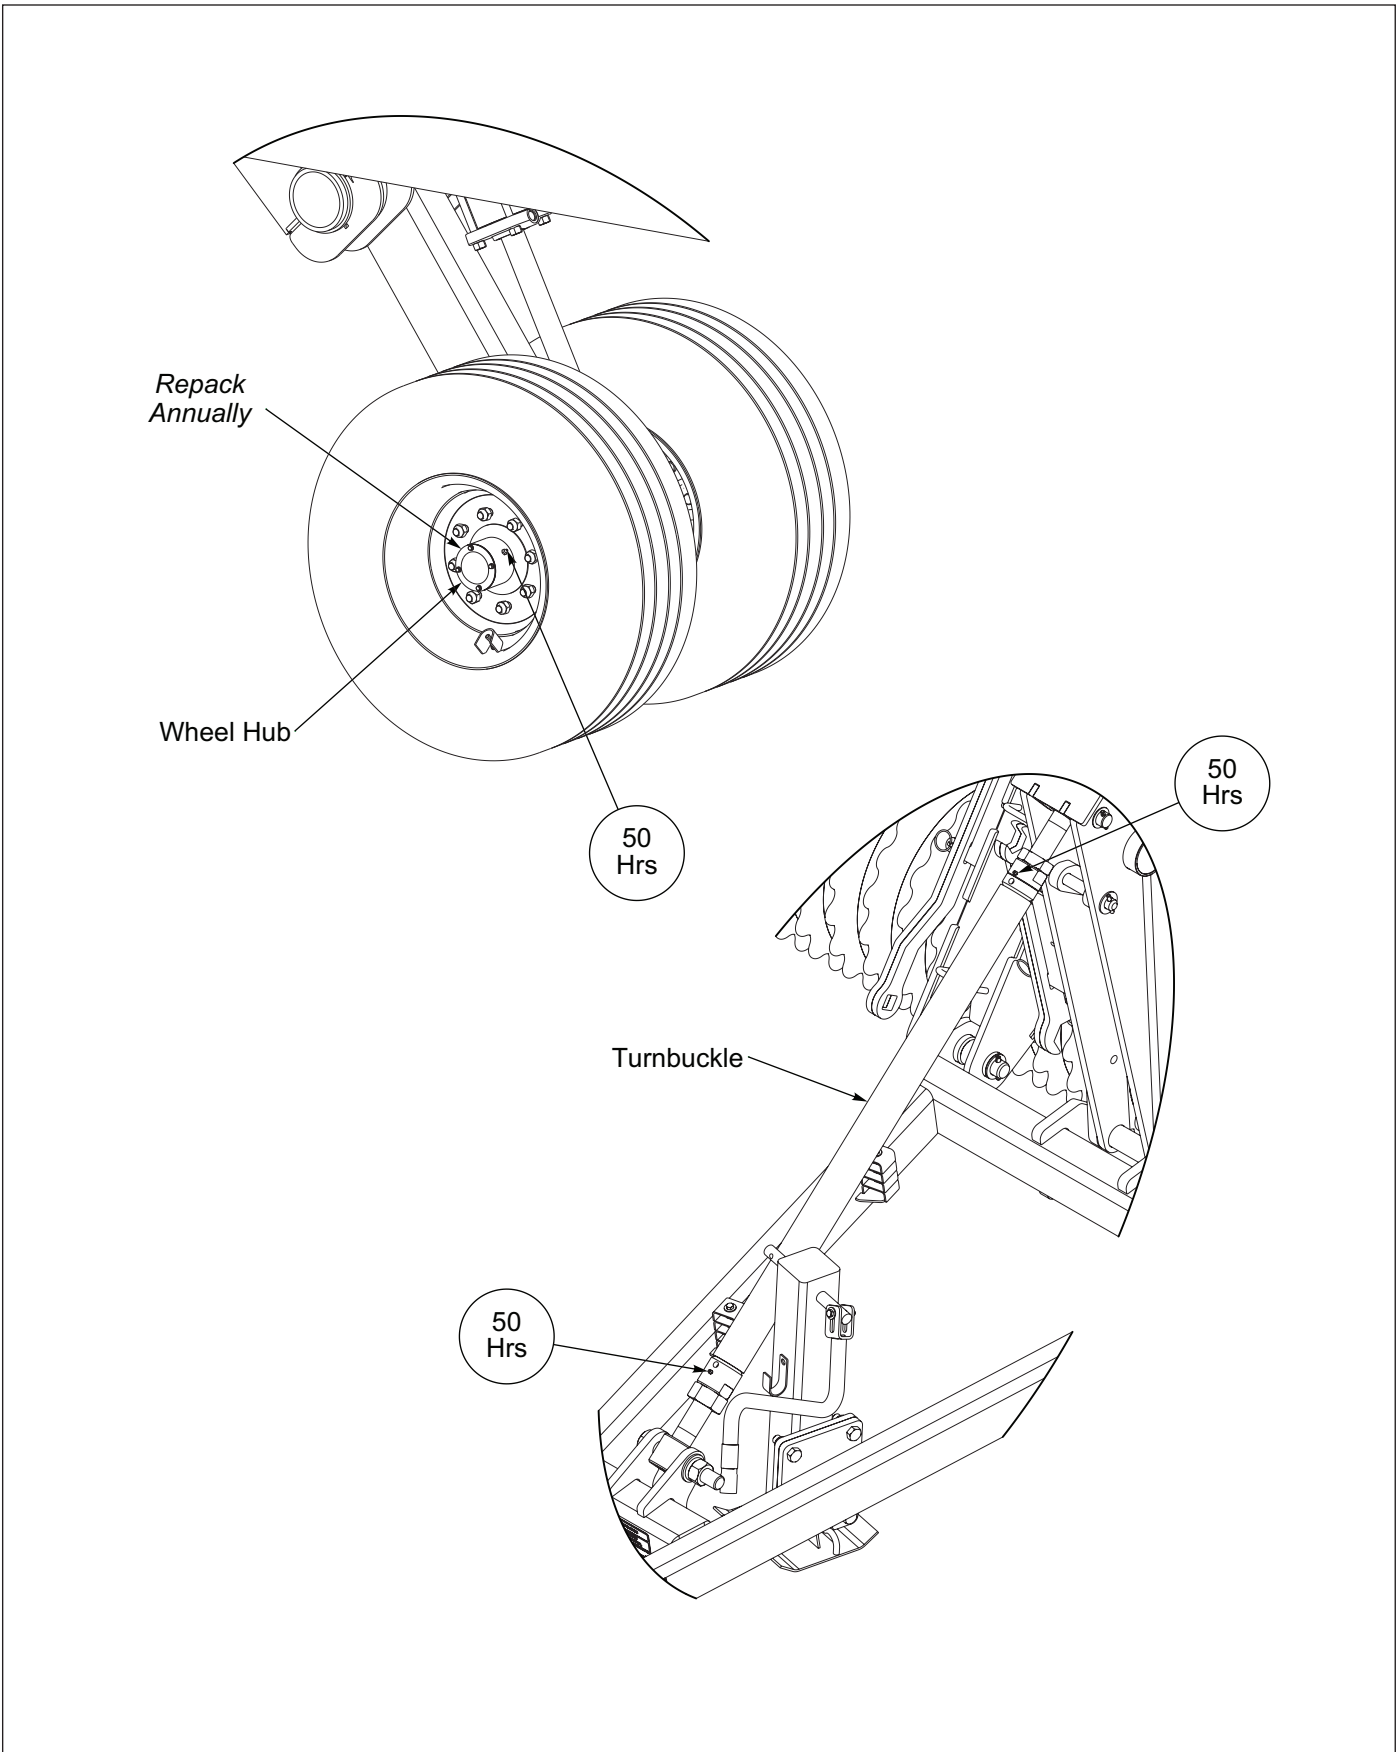

Figure 4-4: Lubrication Points and Intervals
- Grease Turnbuckle every 50 hrs or yearly to prevent seizure. **See Figure 4-4.**
- Grease Wheels Hubs every 50 hrs. **See Figure 4-4.**